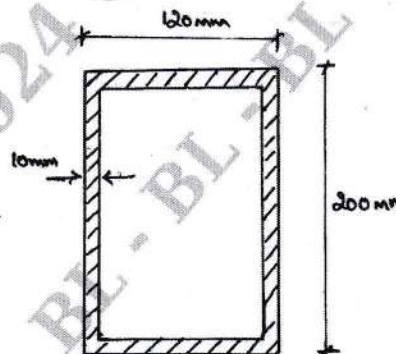

Fig.Q6(c)
c. A hollow box section 120mm wide and 200mm deep is having a uniform wall thickness of 10mm. Obtain the shear stress variation across the cross section. Shear force at the section is 120 kN. Refer Fig.Q6(c).